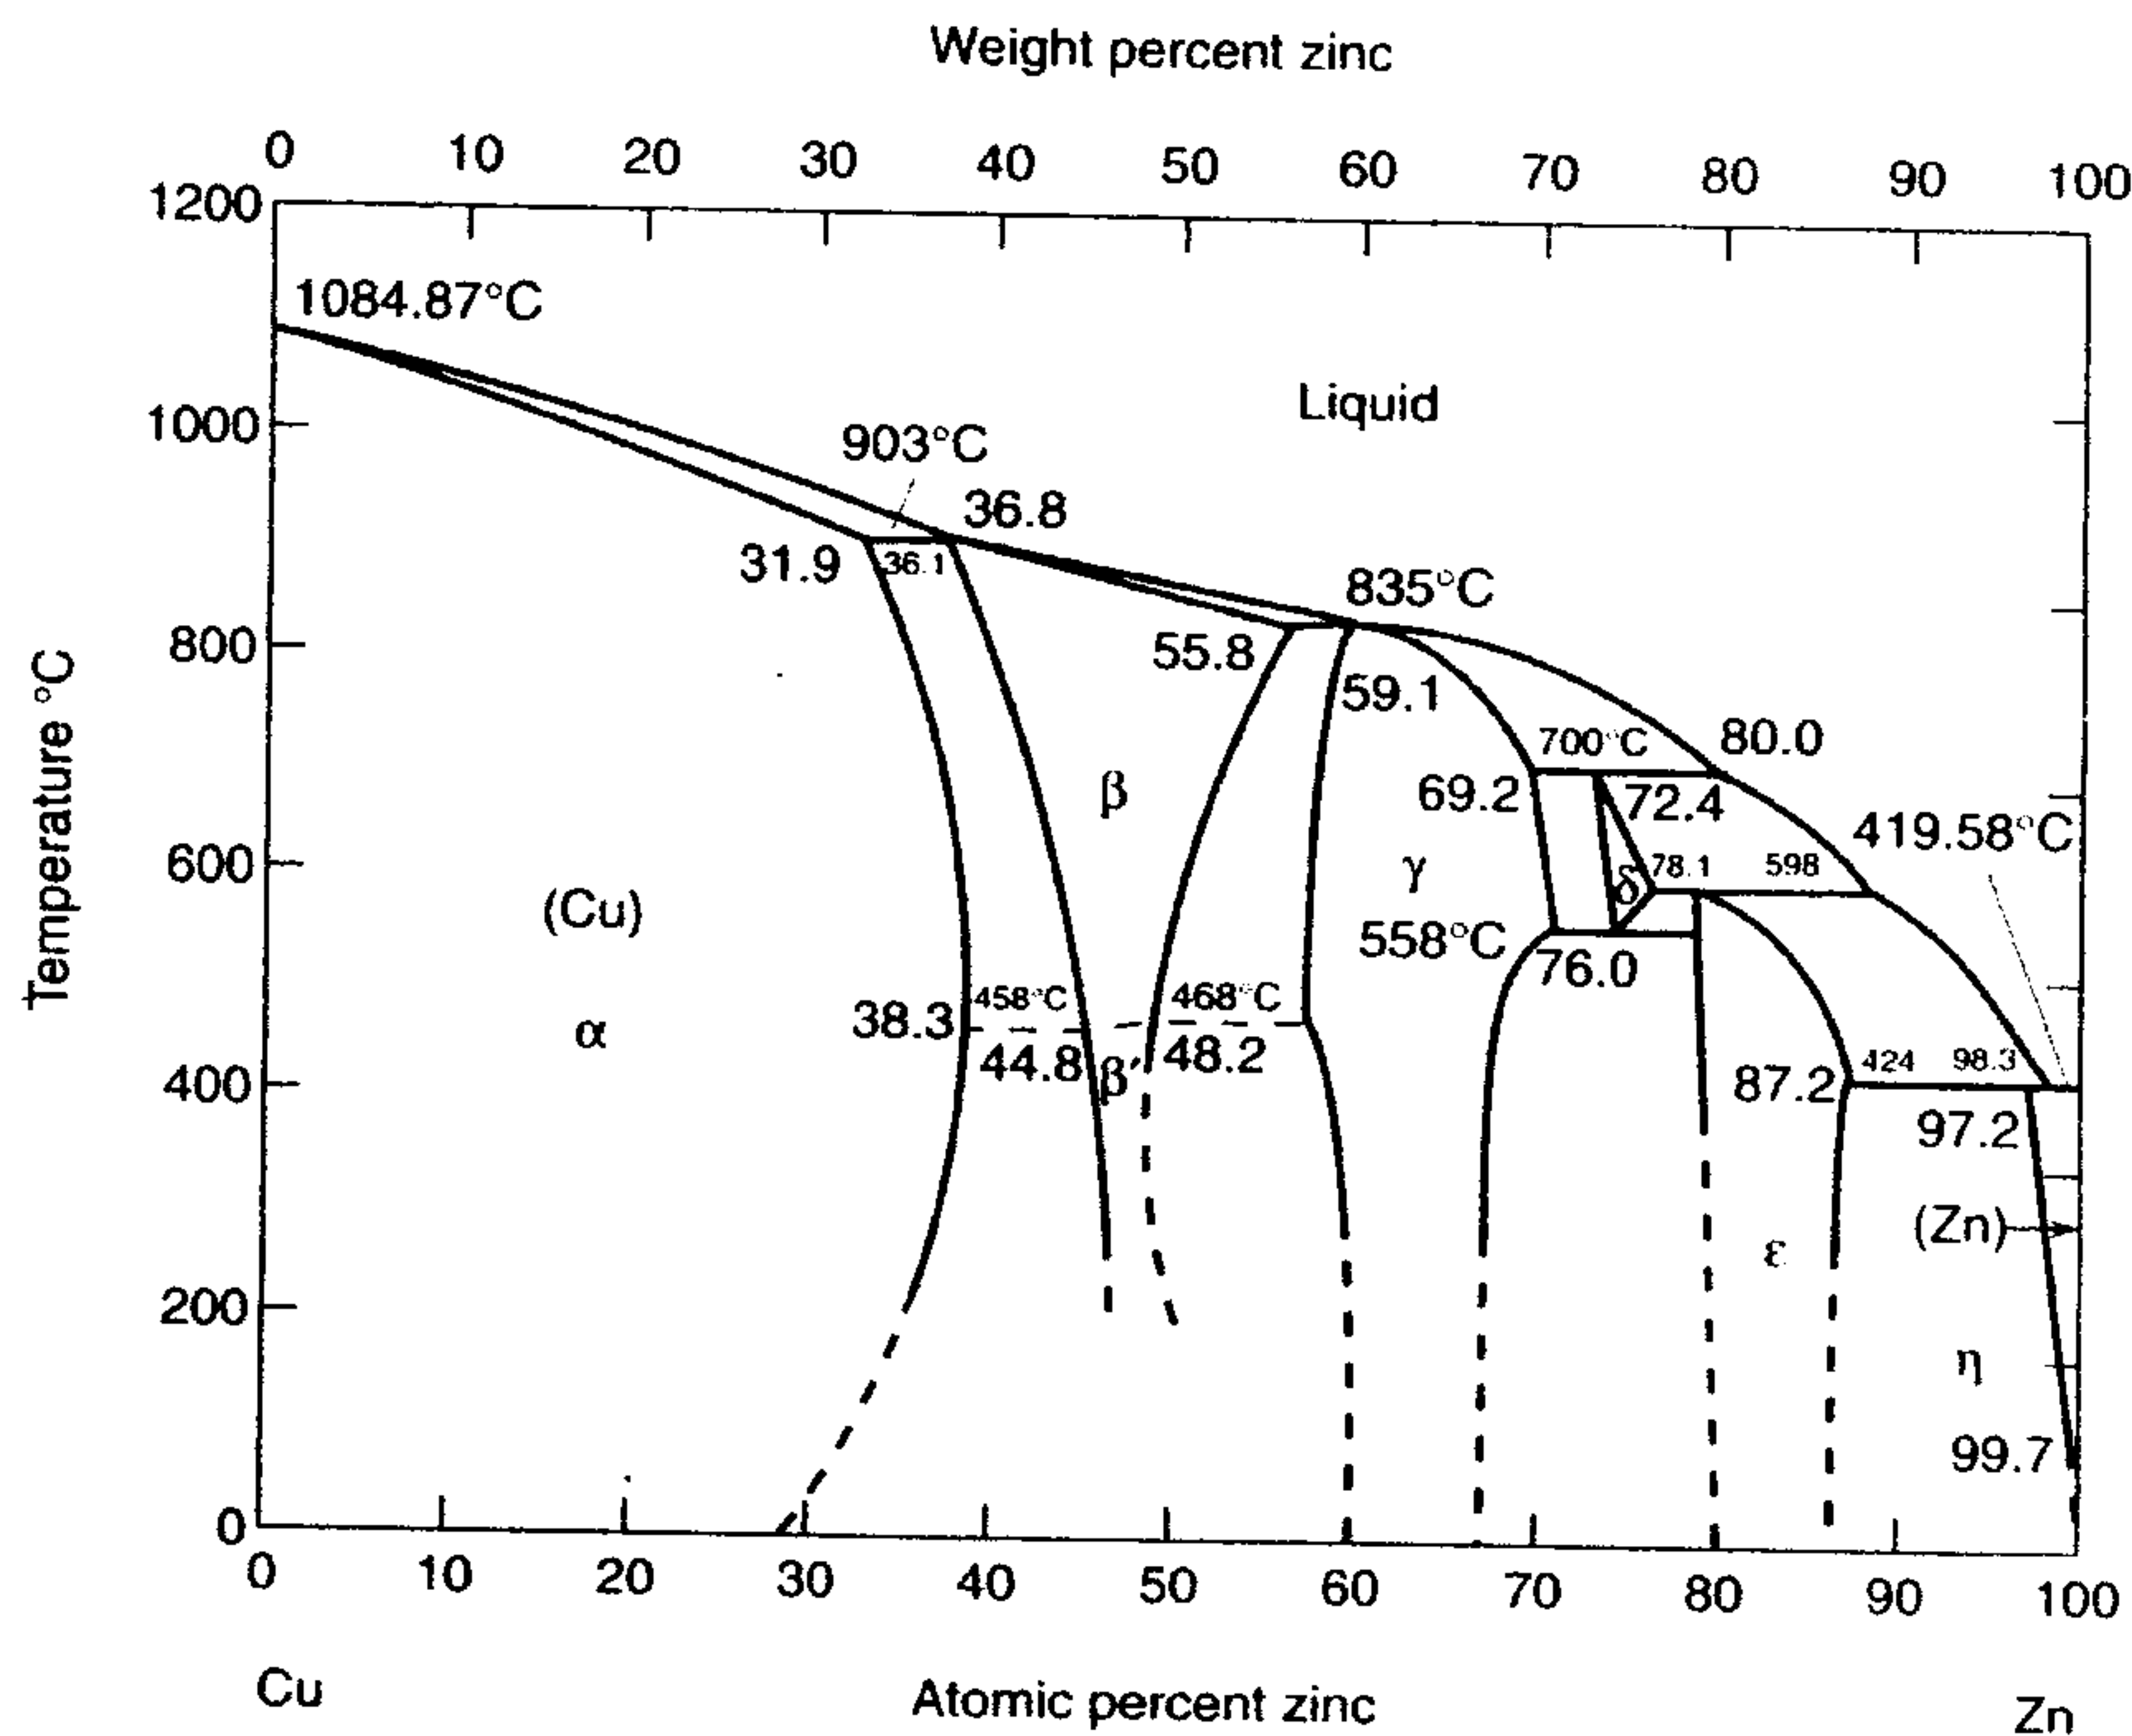

Fig. 2
4. The original diffusion couple designed by Kirkendall was Cu and Zn. The phase diagram of Cu and Zn is shown in Fig. 2. The Kirkendall experiment was carried out at 390°C and maintained at the temperature for a long time to facilitate the interdiffusion. (a) Referring to the phase diagram, draw a schematic diagram to show the layer structure of the diffusion couple after cooling. (4%) (b) Explain the thermodynamic and kinetic reasons for the formation of layer structure. (6%) (c) For metallic alloys, as strength increases the elongation normally decreases and thereby losing fracture toughness, which is problematic in alloy design; therefore, it is one of the most important goals to design an alloy with high strength and high ductility. One of the model examples is Cu-Zn alloy, in which strength and elongation increase simultaneously compared with pure Cu. Based on Considère's criterion, explain the strengthening mechanism of brass. (10%)